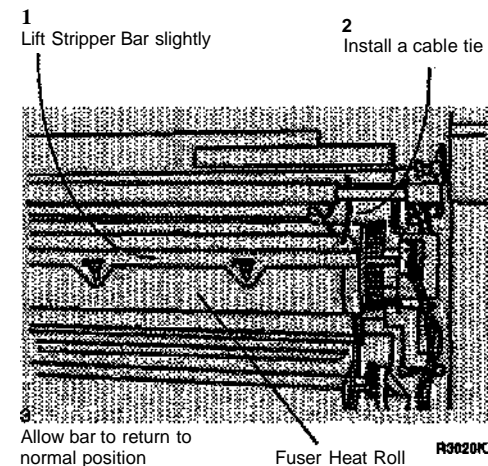

Figure 4. installing the Cable Tie
19. (Figure 4): Open the Media Transport Cover and secure the Stripper Finger Assembly with a cable tie.